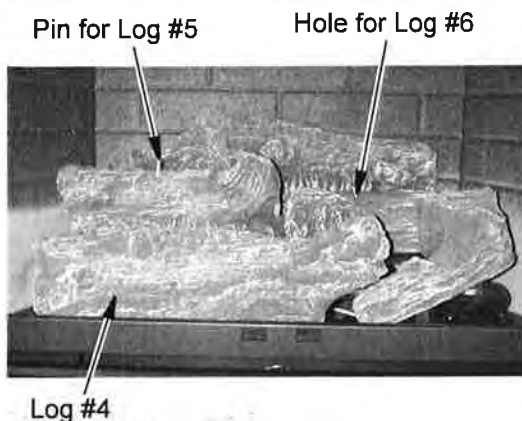

Figure 15 - Installing Log #4
4. Install pins on log #4 onto the two slots in the front bracket (see Figure 14 and Figure 15, page 16).
5. Insert the recessed hole on the bottom of log #5 onto the pin on log #2 (see Figures 15 and 16, page 16).
6. Insert the pin on log #6 into the hole on log #3 (see Figures 15 and 16, page 16).